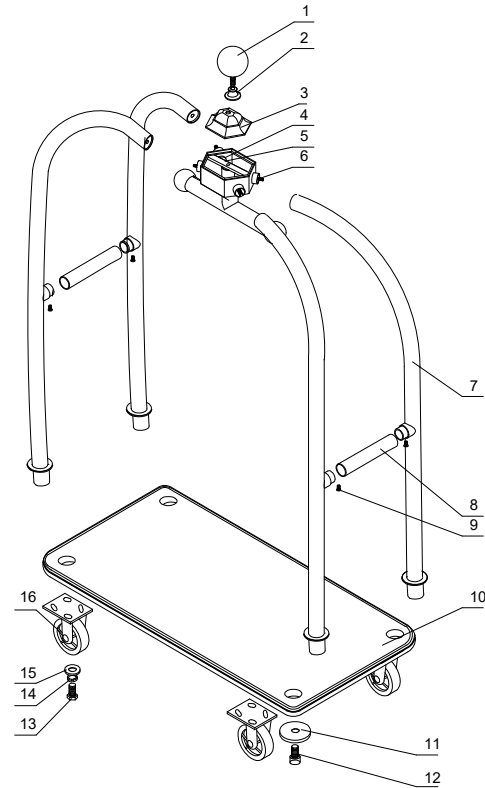

Figure 1
8. Secure the frame legs to the platform using fixings **11** and **12** (as *Figure 1*)